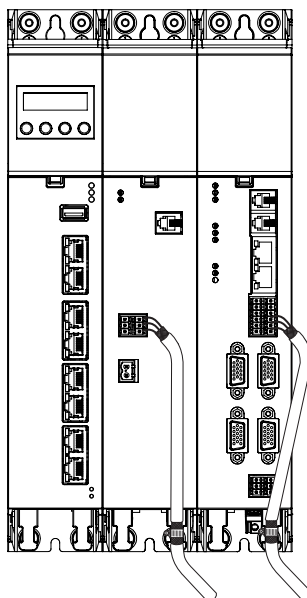

Figure 4.1 Example shield connection, control connections
- Do not strip back the cable shields too far and use the shield lugs on the related connectors for making the connection to the components (see Figure 4.1). Connect the other end of the cable shield to the PE rail (main earth) or the backing plate using a large area connection.